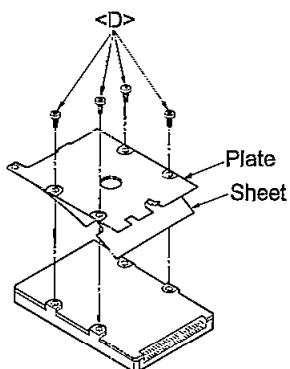

**Figure 11**
- (1) Close the display panel and turn over the computer.
- (2) Remove one screw <A> ( $\varnothing 2 \times 3$  mm).
- (3) Remove HDD by pushing the HDD at the gap <X> in the direction <Y> using a flat head screw driver as shown in Figure 11.